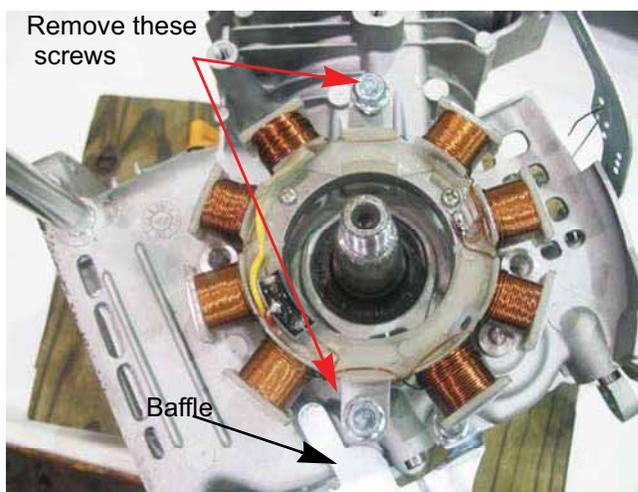

Figure 6.28
4. Remove the two screws that secure the stator with a 10mm wrench and lift the stator off of the engine. See Figure 6.28.